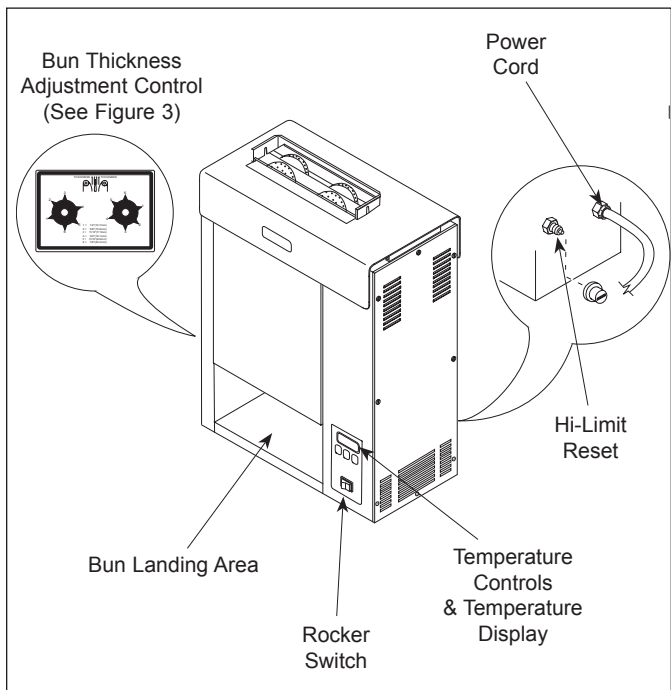

Figure 2. VCT-2000 Toaster
2. Turn the Rocker Switch on. (Figure 2). Allow the toaster to warm-up for 30 minutes before proceeding.
**NOTE: The temperature display (Figure 2) will flash "LO" until the toaster reaches its preset operating temperature. When the toaster approaches the preset temperature of 600°F (315°C), "USE" appears in the temperature display and the unit is ready to toast buns. If "USE" does not appear in the window after warm-up period of approximately 30 minutes, contact your Authorized Service Agency.**
3. Drop Crowns and Heels into the slot (Figure 2). **Cut sides of heel and crown must face each other.**
4. Toasted buns will drop into the bun landing area (Figure 2).
A Hi-Limit Control turns off electrical power to the heater and control circuits if the platen overheats. To reset the control, allow sufficient time (10-15 minutes) for the unit to cool, then locate the Reset Button at the rear of the unit. Remove the black protective cap, press the Reset Button, and reinstall the protective cap (Figure 2).